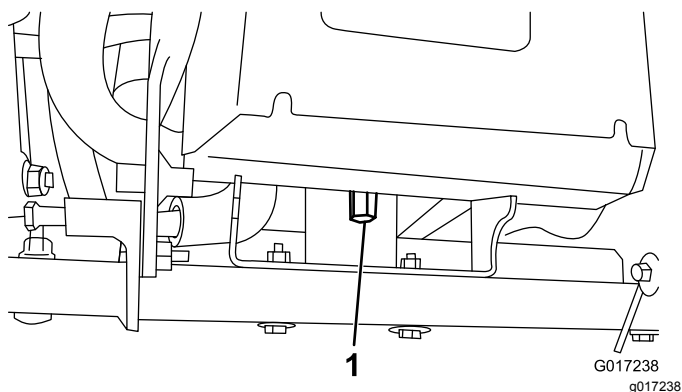

Figure 10
4. Remove the tall nut that secures the rear of the battery base to the machine frame (Figure 10).